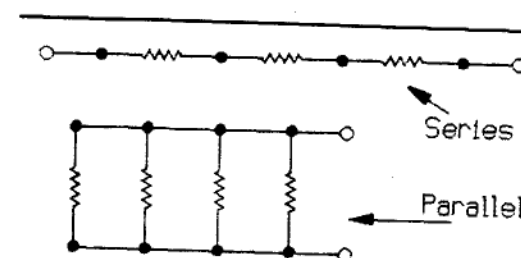

FIGURE 8-8: Types of resistor connections.
**CONNECTIONS & CALCULATIONS.** You can connect resistors either in series or in parallel (Fig. 8-8). The total resistance of a string of series-connected resistors is simply the sum of their resistances. The string's power rating will be approximately the sum of the ratings.